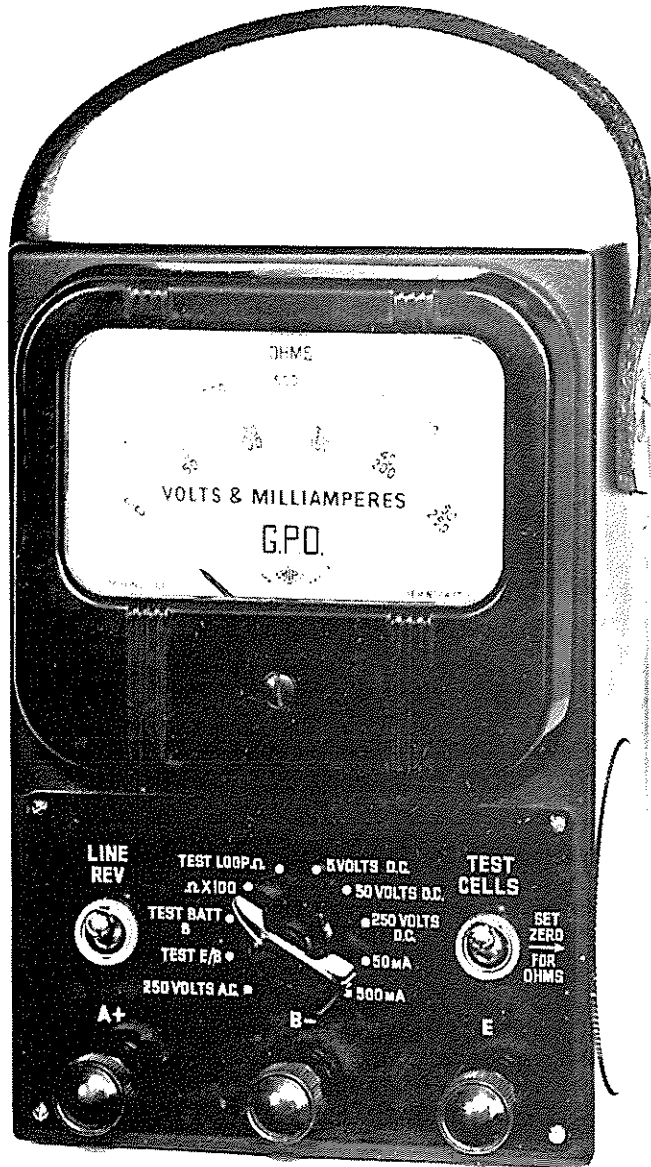

FIG. 1
1. **General.**—The "Tester SA 9083" (see Fig. 1) is a portable tester and is primarily intended for use by faultsmen for maintenance testing of subscribers' installations connected to exchanges where faultsmen do not have testing access to a test desk, or where the testing equipment at the local exchange is not staffed during normal working hours. This Instruction describes the facilities afforded by the instrument and how it is used for making the various tests.